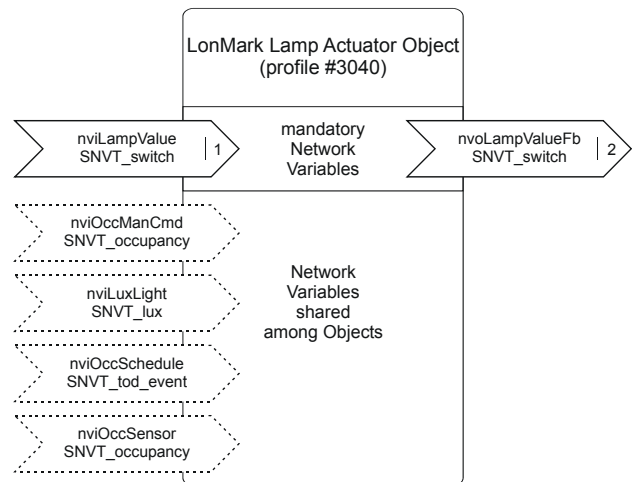

Fig. 9. Lamp Actuator Object
- 2 lamp actuator objects (#3040) (see Fig. 9)